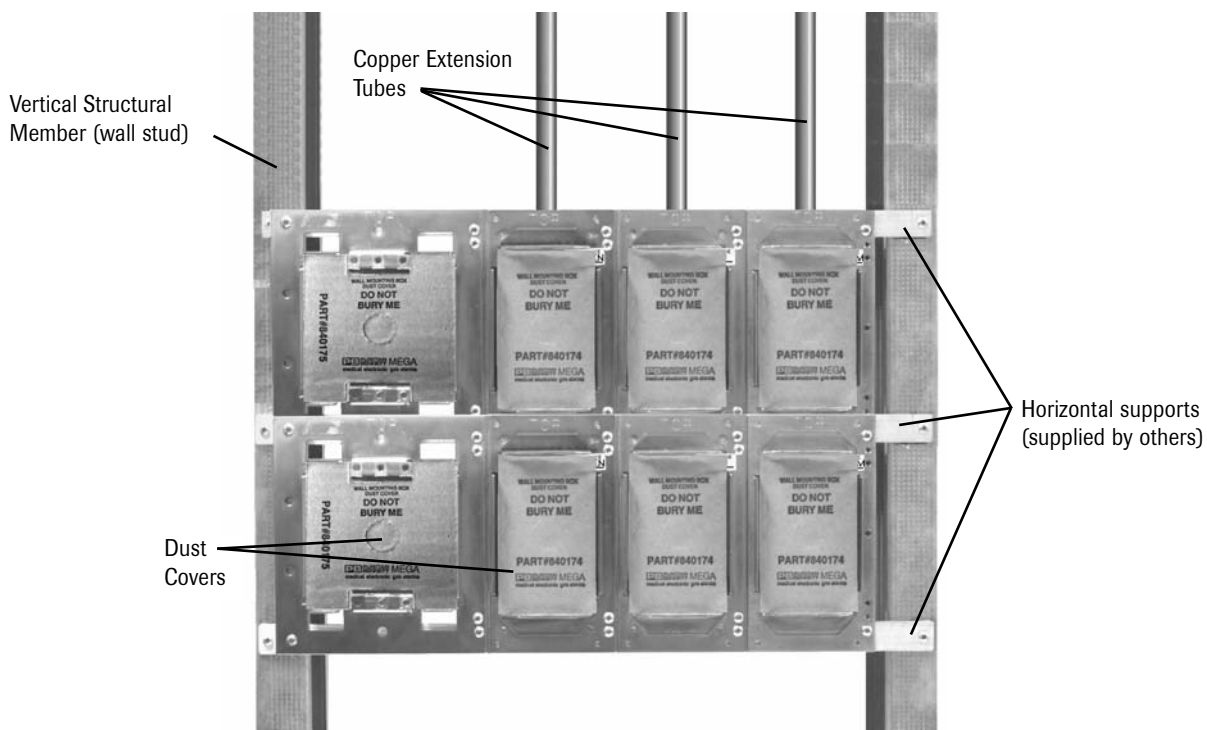

Figure 6. Rough-In Installation
1. Prepare a rough wall opening large enough to accommodate the rough-in assembly. The opening must have rigid horizontal members to support the rough-in assembly. Refer to **Figure 6**.